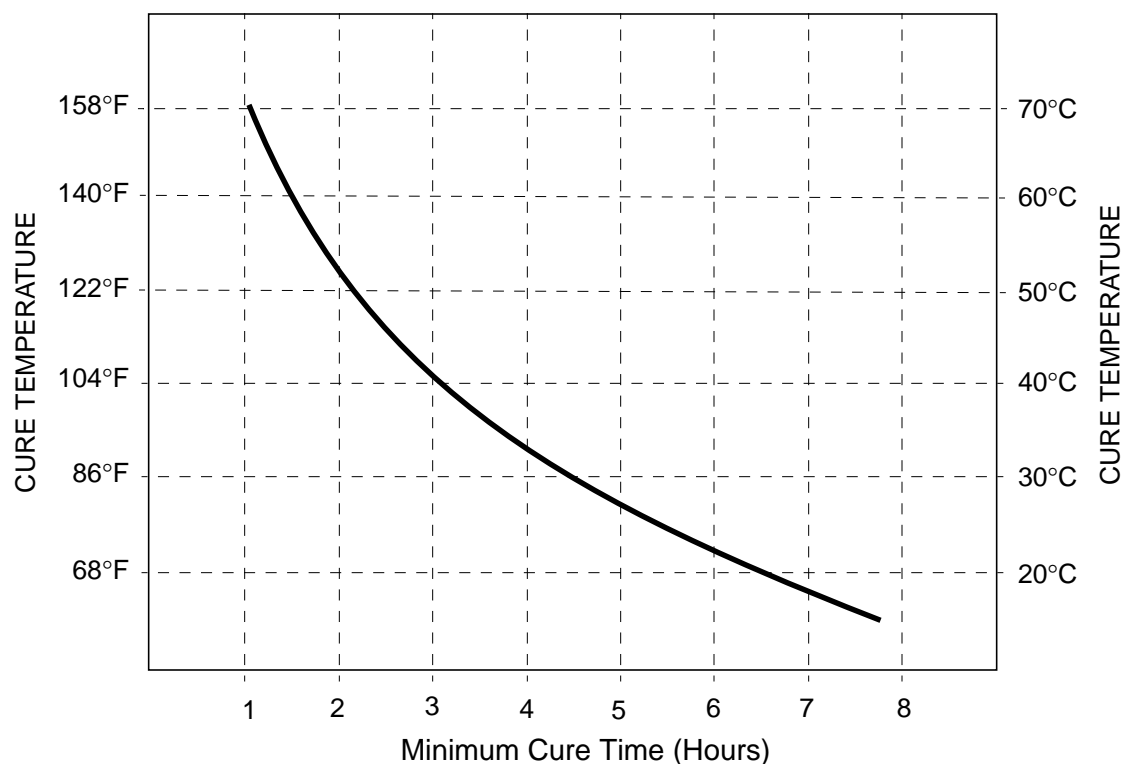

Figure 1 - Cure of F22 Enamel for Shipping or Transport
5.5.2 For curing before shipping or transportation, it is acceptable to use a high temperature cure as follows. Accelerated cure ovens or areas (conventional or infrared (IR)) must be qualified according to BAPS 138-055 (including temperature uniformity survey according to BAERD GEN-007).:
Step 2. Heat cure the parts according to Figure 1.